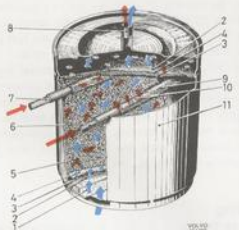
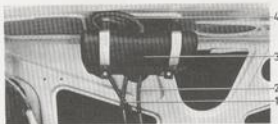

Fig. 2-96. Venting filter
Fig. 2-98. Expansion tank
Fuel fumes formed in the fuel tank, especially during warm weather, are led to the expansion tank (2) and from there to the venting filter (3) where the fumes are absorbed by active carbon. On the 140 model, the expansion tank is located in the luggage compartment, see Fig. 2-98. (On the 145, it is placed on the right-hand side in the cargo space.) The venting filter (Fig. 2-96) is located in the engine compartment on the right-hand side, see Fig. 2-99.